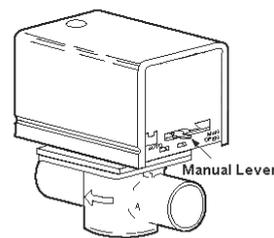

Fig. 1. Manual Lever
1. Place the manual lever on the old powerhead in the MAN. OPEN position. (Fig. 1.)
1. Place the manual lever on the new AD1S powerhead in the MAN. OPEN position SLOWLY and FIRMLY. (Fig 1.)